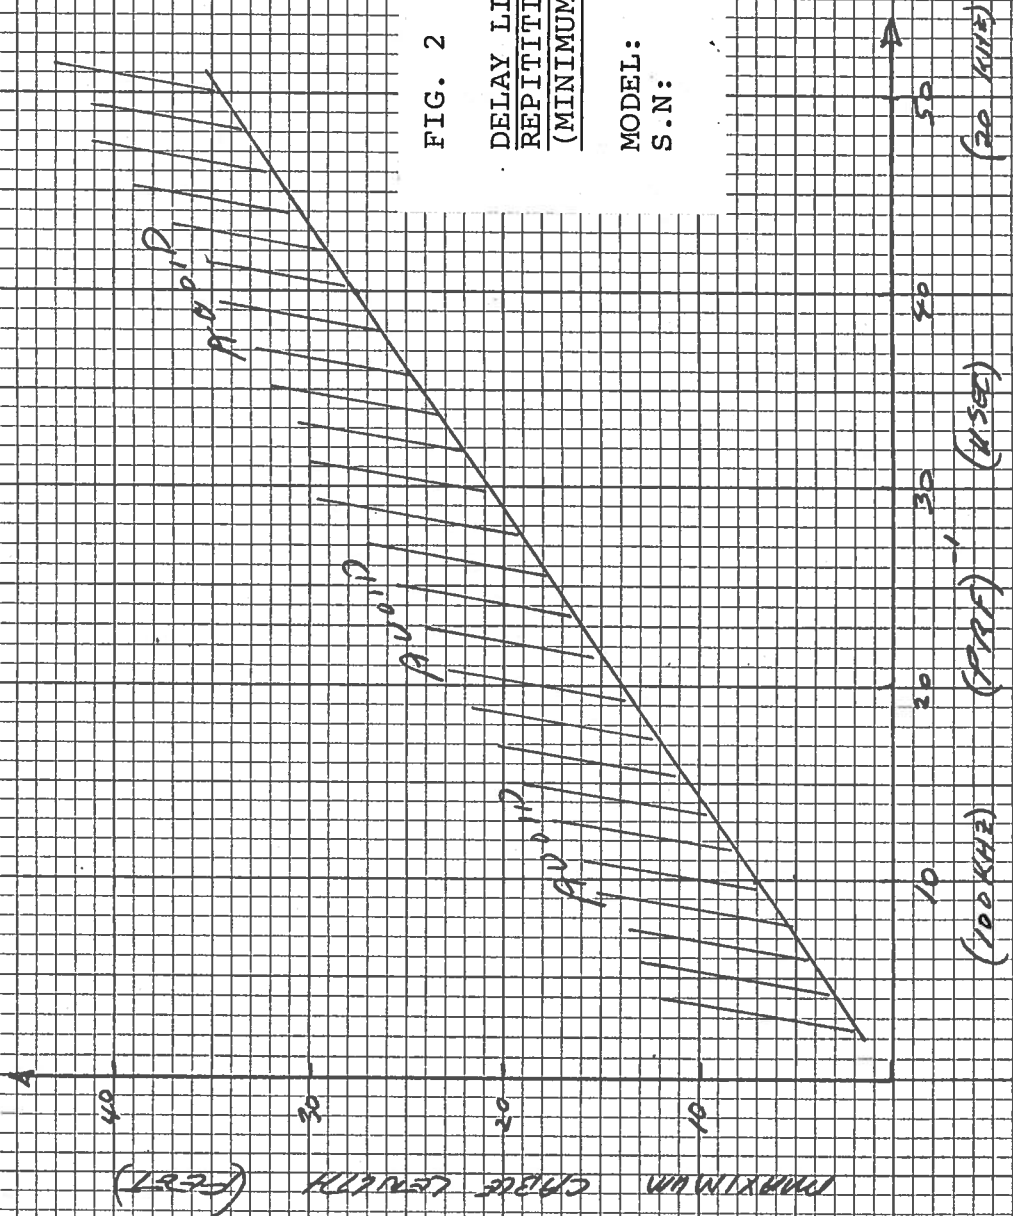

FIG. 2
- 5) The minimum pulse repetition frequency period is related to the delay line cable length (or pulse width) as shown in Fig. 2. If the PRF period for a given cable length is less than that specified in Fig. 2, the output pulse amplitude will be less than the specified value and prolonged operation in this mode could result in damage to the unit. Therefore, operation in or beyond the shaded region should be avoided.